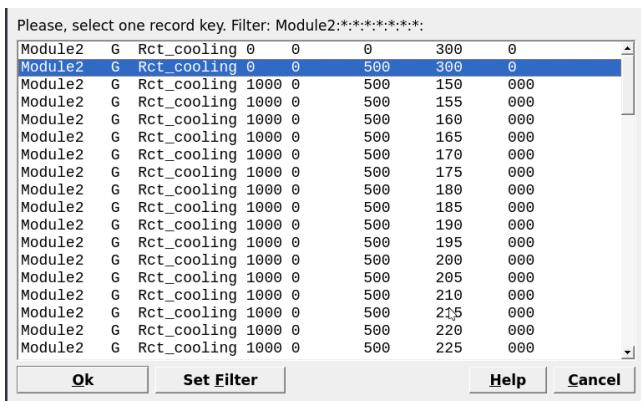

Figure 2.18: Select the parent record generated in ‘SysEq’ for your new ‘Process’ simulation.
- Switch to **Process**simulation mode and clone Rct_path_2. Select the Rct_cooling **SysEq** record (Fig. 2.18). Then call this new record Cooling_150-300C and select P for the simulation mode.